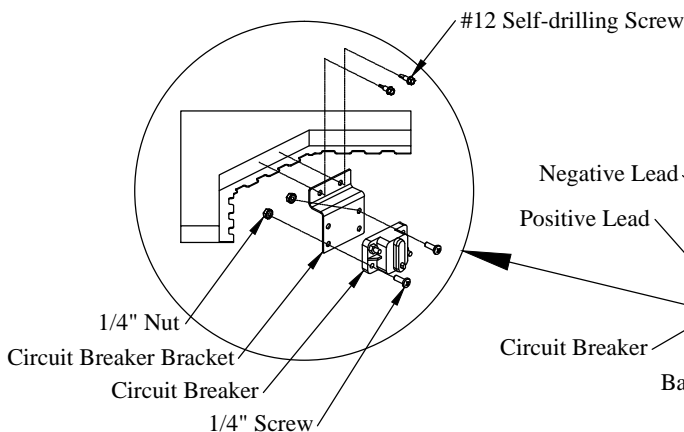

Figure 15: Circuit breaker bracket.
1. **Install** the circuit breaker on the circuit breaker bracket with 1/4" screws and nuts (Figure 15).